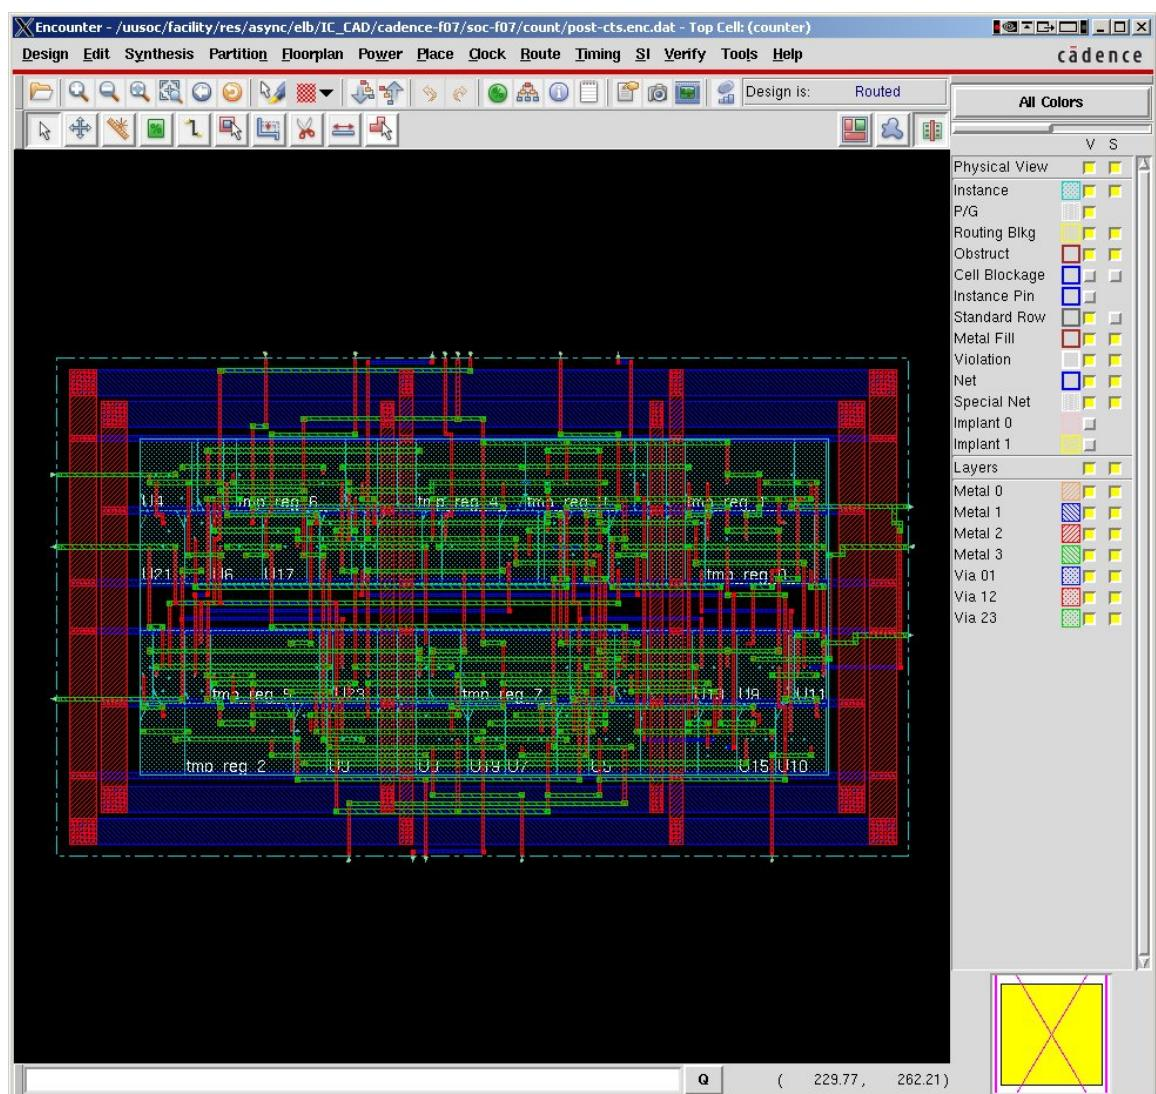
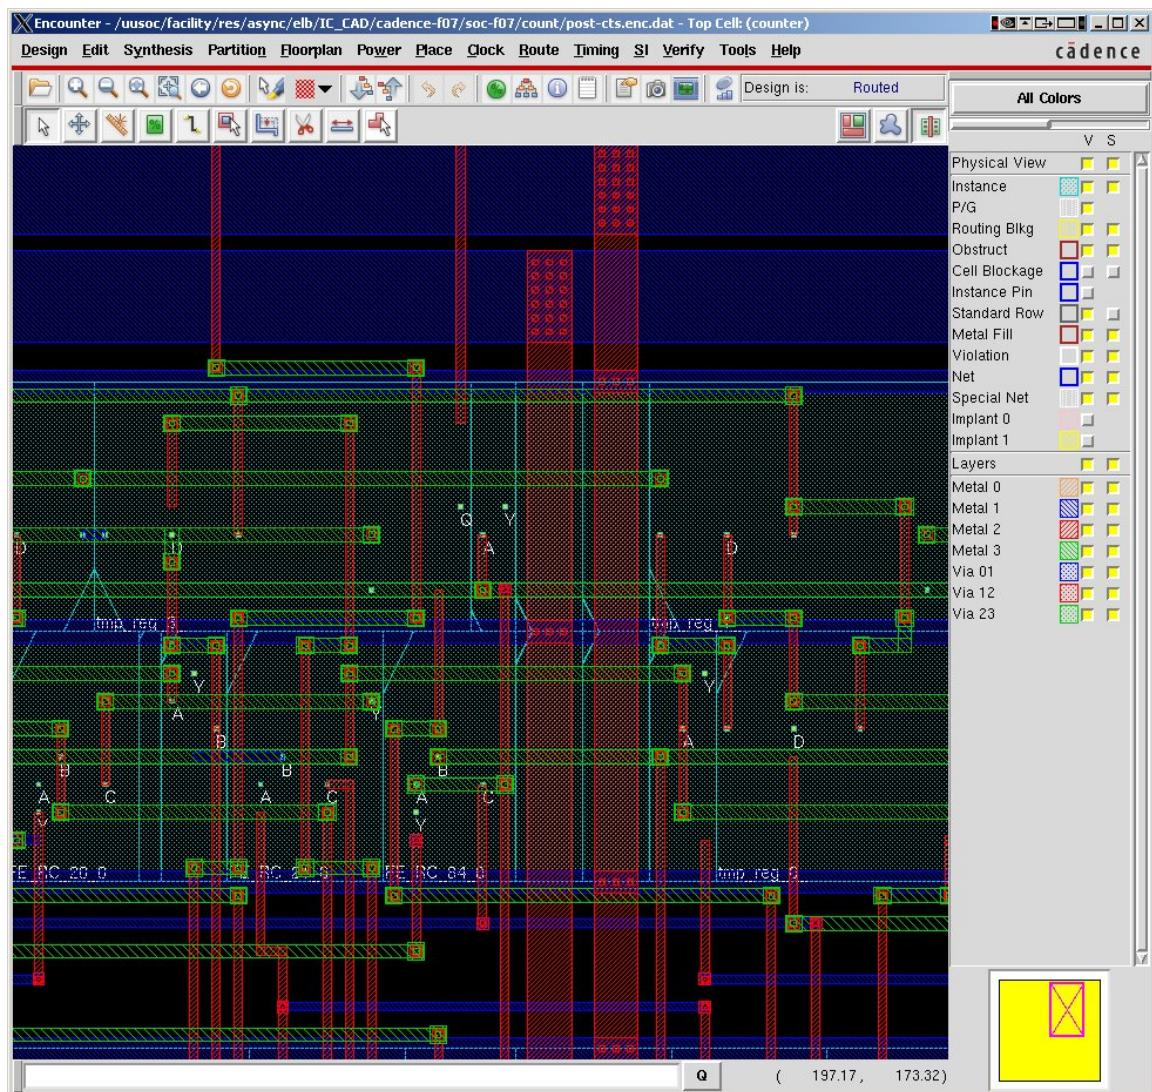

Figure 10.30: Final cell layout after filler cells are added
Figure 10.31: A zoomed view of a final routed cells
**Place** → **Filler** → **Add Filler** and either add the cell names of your filler cells or use the **browse** button to find them. In my library I have two different filler cells: a one-wide **FILL** and a two-wide **FILL2** (see Figure 10.29). Clicking **OK** will fill all the gaps in the rows with filler cells for a final cell layout as seen in Figure 10.30. You can also zoom around in the layout to see how things look and how they're connected as in Figure 10.31.